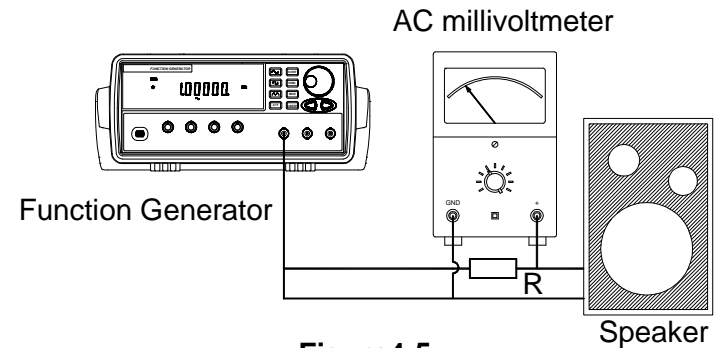

Figure4-5
- The circuit testing speaker as shown in figure 4-5, the main output signals can be used for the low-power speaker, for testing larger power speaker can be used the independently power output signals. The size of external series resistance R according to the speaker impedance. Adjust the output amplitude knob **【AMPL】**, so that the power of the speaker bore is less than one-tenth of the rated.